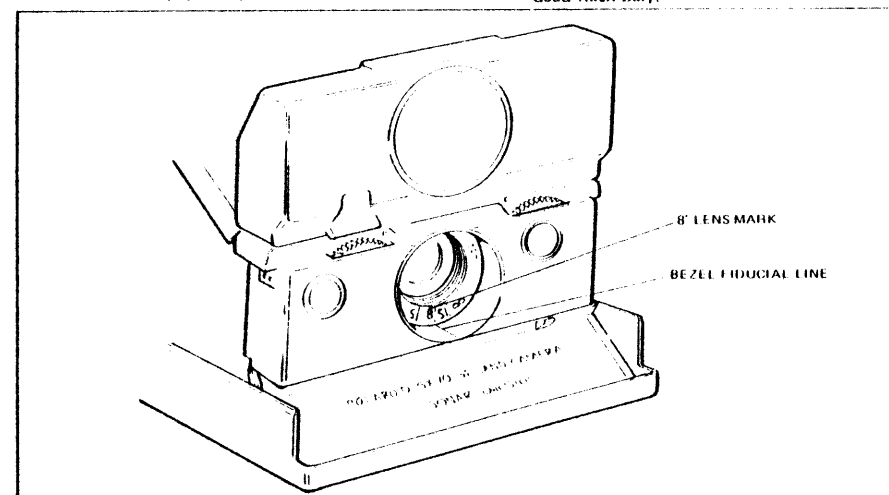

FIGURE 2-5. SX-70 SONAR CAMERA RANGING
5. Observe the lens decal (Figure 2-5). The 8 ft. lens mark must be exactly lined up with the bezel fiducial line as indicated in the Sonar Cameras Specification Chart which appears at the end of this section.